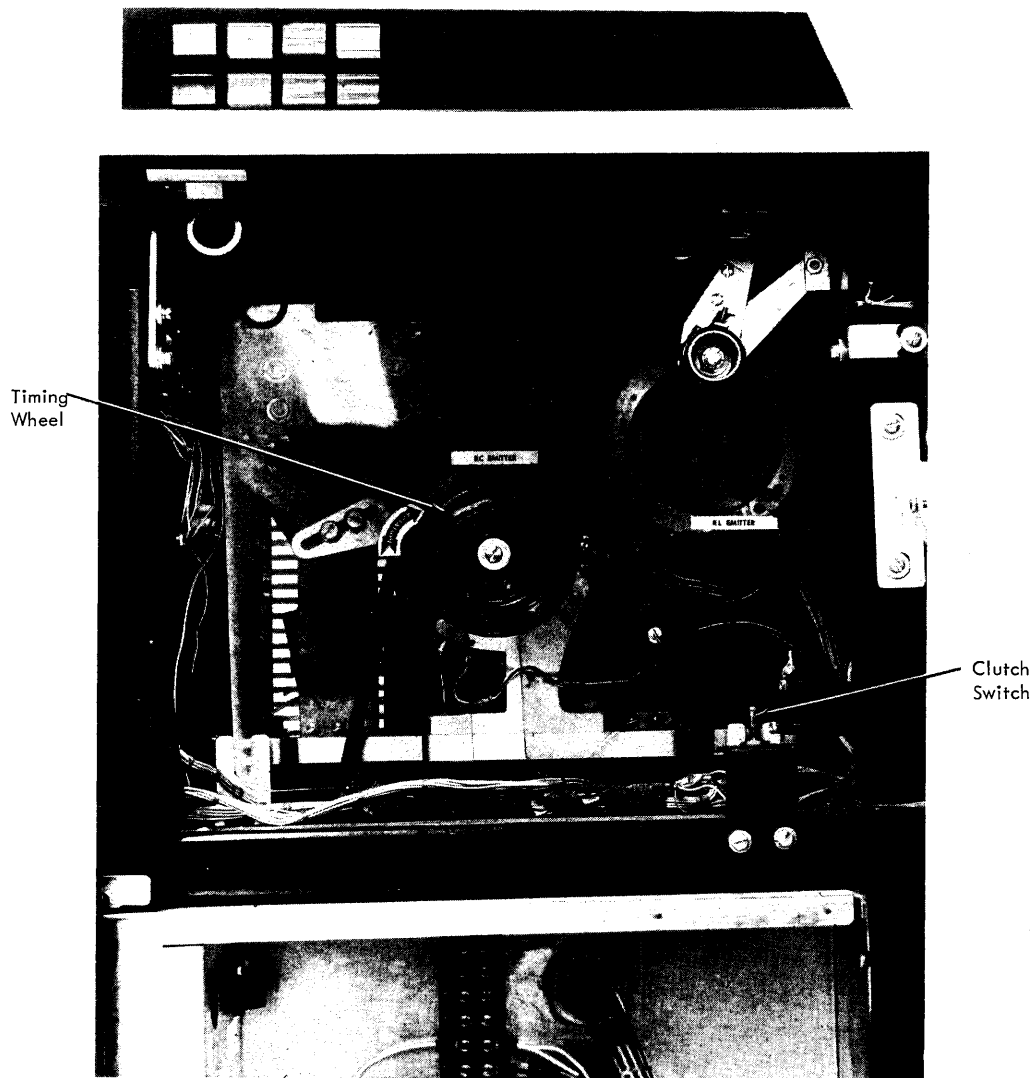

Figure 16. Read Clutch Switch and Timing Wheel
6. Trip the clutch switch and turn the timing wheel clockwise to remove jammed cards (Figure 16).